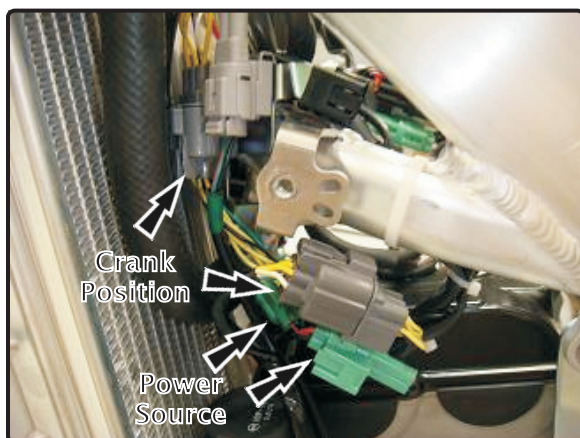

Fig. 3
- 5 Disconnect Crank Position Connectors and Power Connectors. Connect PIM2 harness connectors for Crank Position and Power Source to OEM connectors as shown in Fig. 3.